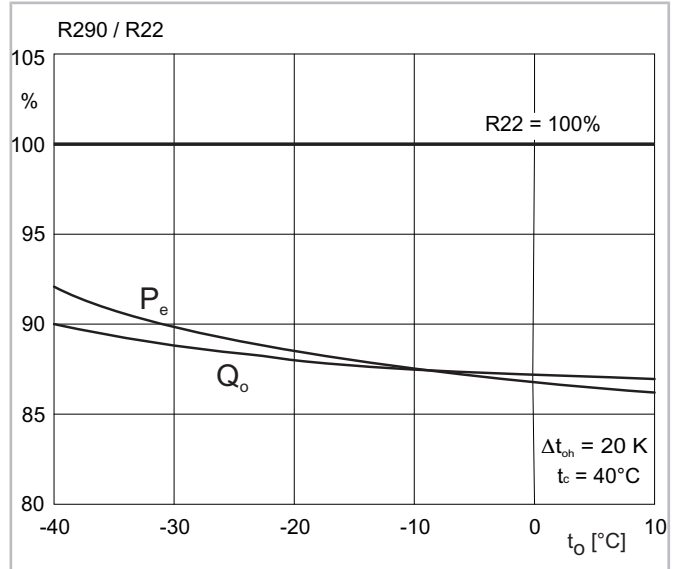
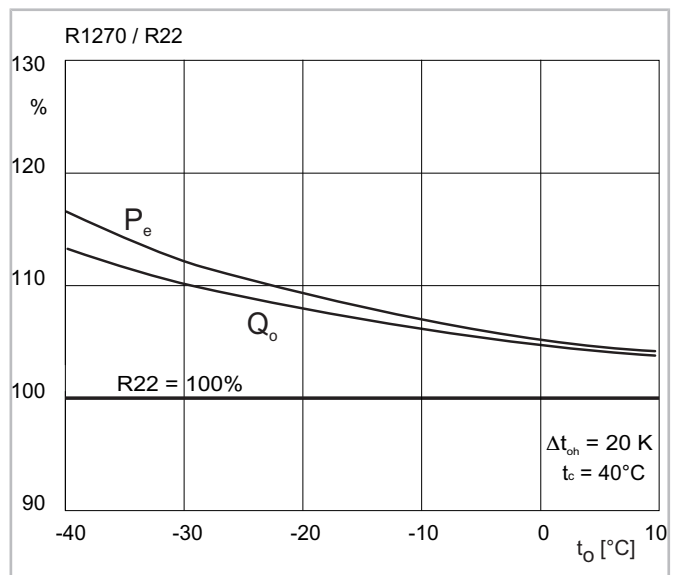

Fig. 7: Performance comparison R290/R22 for suction gas cooled semi-hermetic reciprocating compressors
Fig. 8: Performance comparison R1270/R22 for suction gas cooled semi-hermetic reciprocating compressors
- In terms of their coefficients of performance (COP), R290 and R1270 differ only slightly from R22 (see figure 7, page 24 and see figure 8, page 24) and are thus better suited than R404A/R507A for medium temperature application and air-conditioning application.